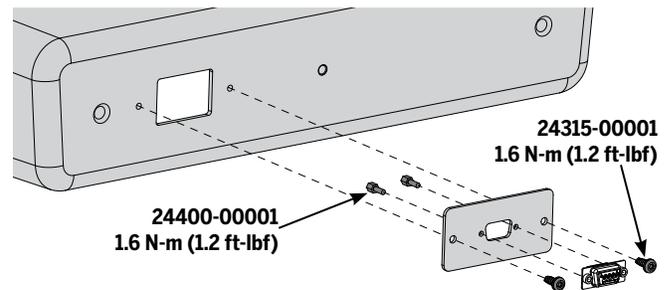

Figure 20: Service Port
5. Using a 3 mm hex wrench, remove the two fasteners connecting the Service Port to the back of the Glove Box (**Figure 20**).
3. Using a 3 mm hex wrench, attach the Service Port harness to the back of the Glove Box (**Figure 20**). Orient the connector with the narrow side down. Torque to **1.6 N-m (1.2 ft-lbf)**.